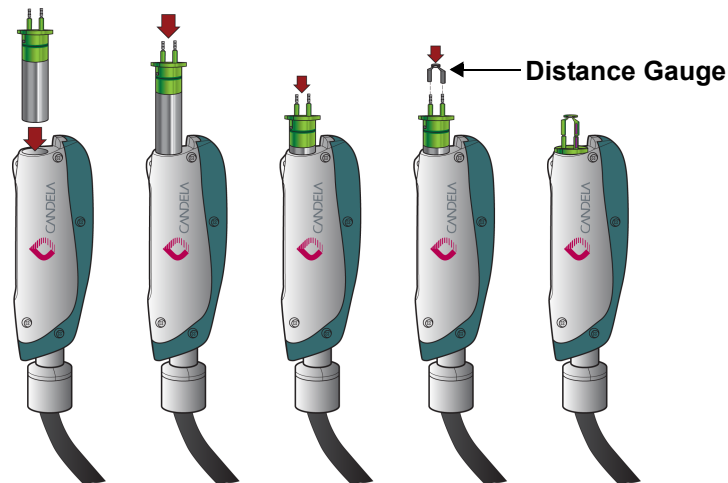

Figure 3-3: Install Lens Cartridge into Handpiece Assembly and Install Distance Gauge
3. Install the Distance Gauge on the top of the Lens Cartridge (see **Figure 3-3**).